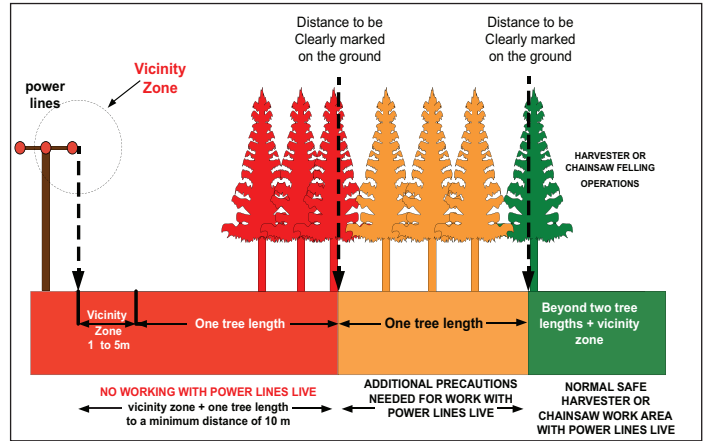

Figure 2: Red/Amber Zones (Uniform height crop)
41. These zones are illustrated in *Figures 2, 3 and 4* and defined as: